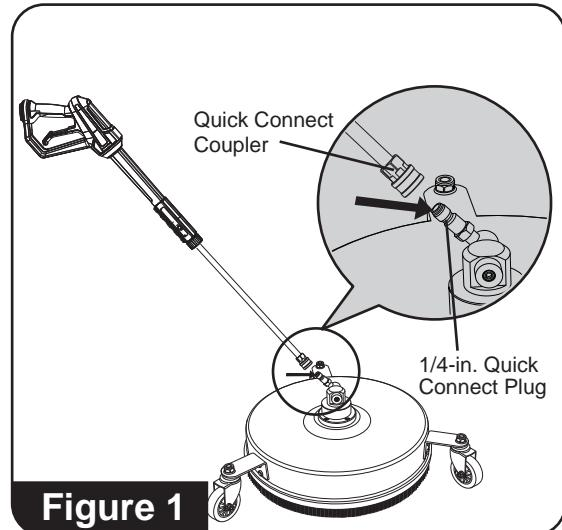

Figure 1
2. Attach the surface cleaner's 1/4-in. quick connect plug into the end of the pressure washer wand (**See Figure 1**).